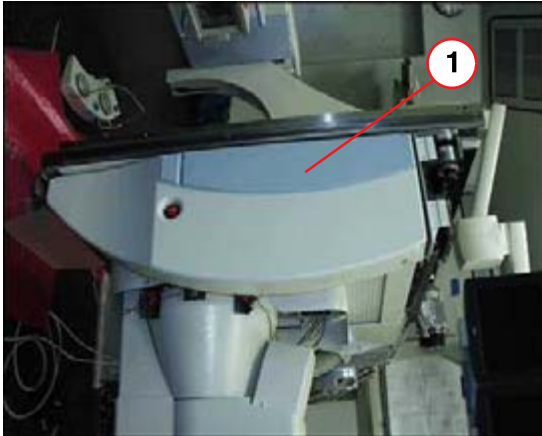

Fig. 98: Front unit carrier cover
- Insert the unit carrier cover (1/Fig. 98 / p. 82) and fasten it via the supplied screws.